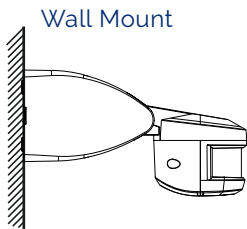

Fig 7a
- Fix the detector head to the bottom cover and adjust the detector head to be in the right position (see fig 7a & 7b)